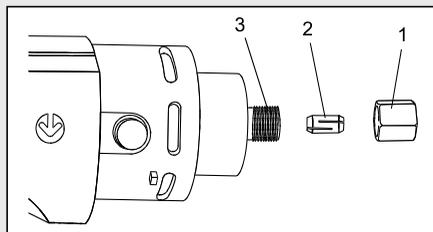

Fig. 4
NOTE: If the shank of the bit being installed is a different size than the bit being removed, install the correct collet as outlined in Fig. 4.
The cutting bits for this tool are locked into place with a collet nut (1) and collet (2) (Fig. 4). 1/8" and 5/32" collets are used for holding 1/8" and 5/32" cutting bits and hobby tool accessory bits. The 5/32" square collet is used to connect the flexible shaft to the tool. The 1/4" collet is supplied for holding 1/4" drywall and small router bits.
2. Turn the collet nut counter clockwise until it can be removed from the motor shaft (3) (Fig. 4).